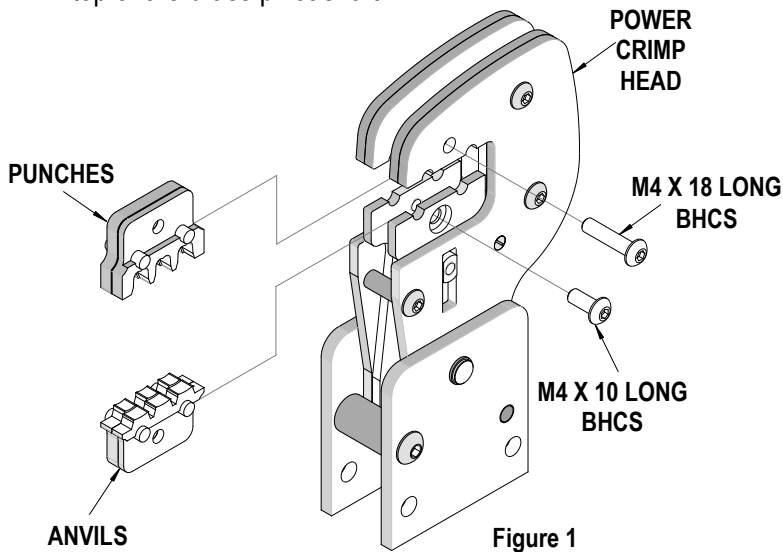

Figure 1
2. Insert the Punches into the top slots of the nest. Install the M4 x 18 long BHCS and tighten in place. See Figure 1.
4. Press down on the wire stop on the locator as shown in Figure 1. Insert the proper terminal into the proper nest opening. Make sure when choosing the nest opening, it will correspond with the A, B or C profile on the hand tool.